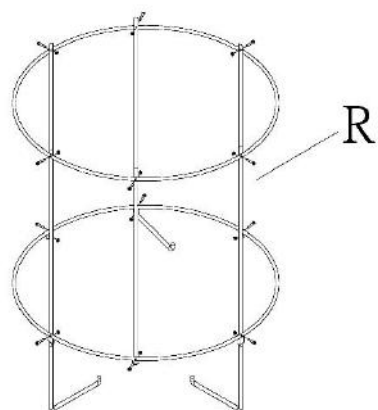

Figure 13
18. Screw the short and long frame supports into the hoops in alternating manner, as shown in Figure 13. Secure with twelve pan head screws and hex nuts (HP10, HP11). (Note: The bends on long supports point inward as shown.)